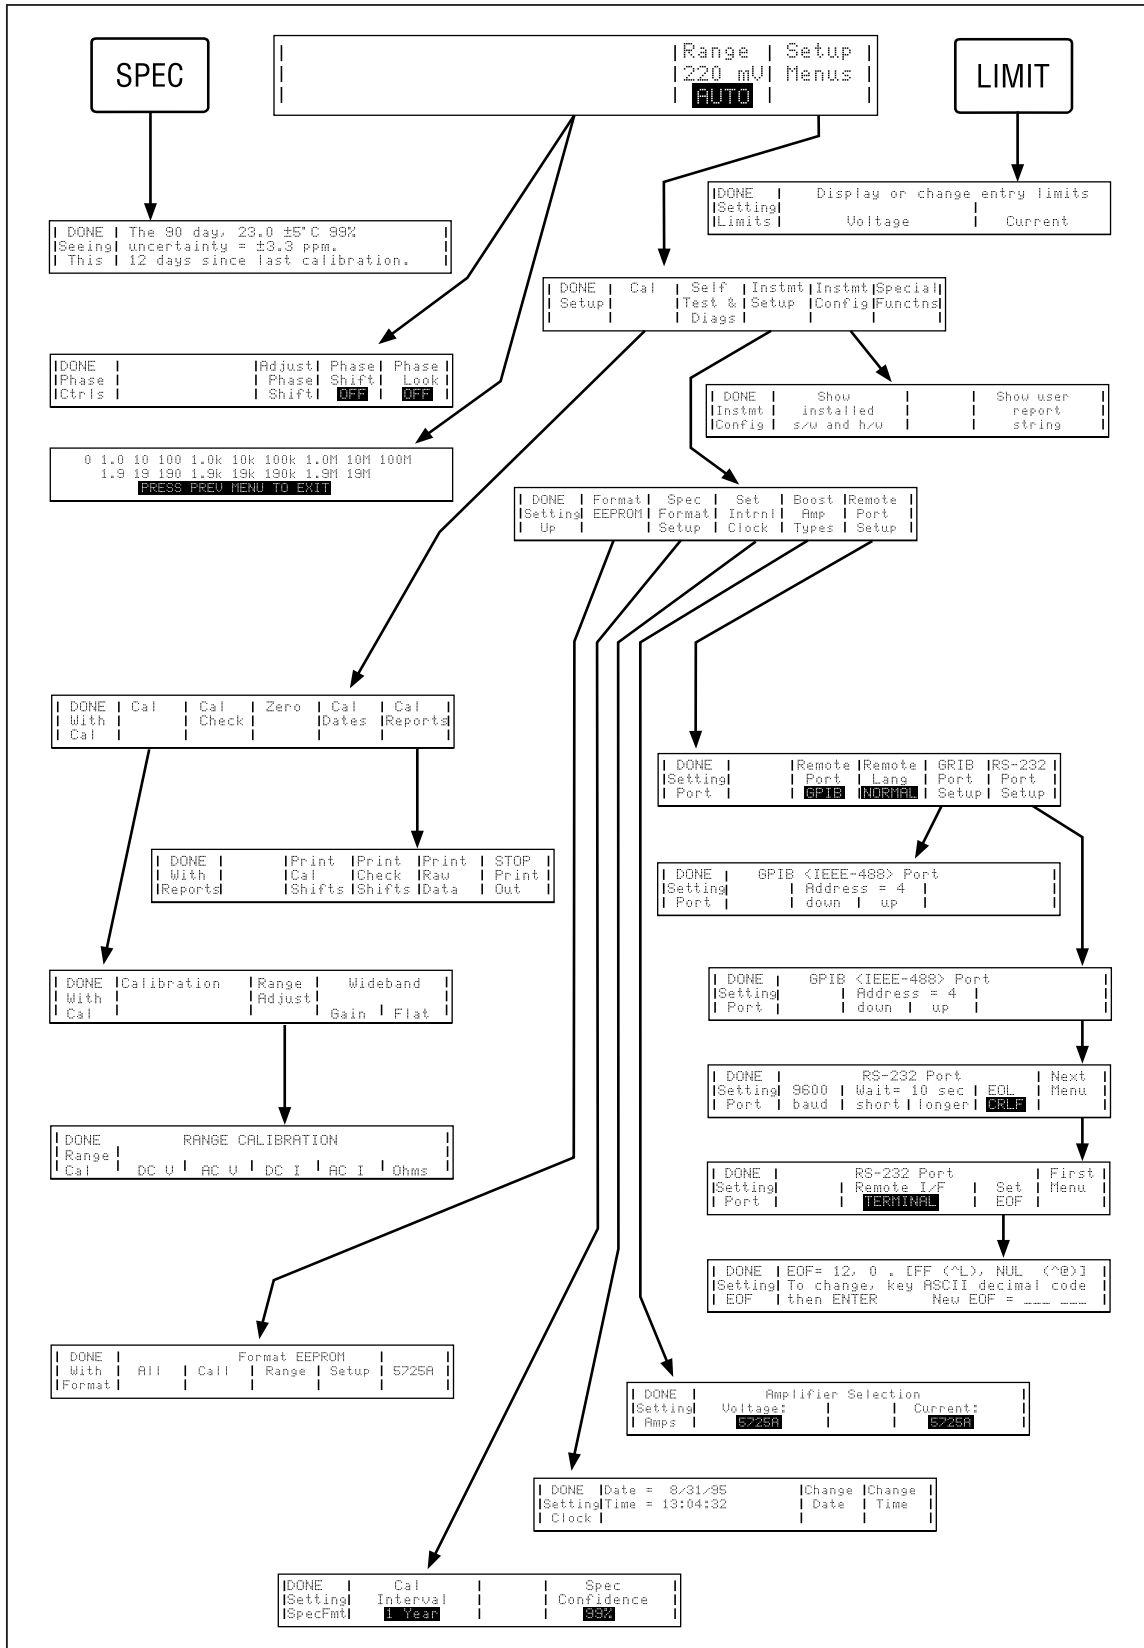

Figure 3-3. Softkey Menu Tree
| <p>② Control Display</p> | <p>An alphanumeric vacuum-fluorescent display that shows data entries, UUT error adjustments, menus, and other prompts and messages. Each menu contains a set of softkey labels that identify the functions of the softkeys directly below them. The changing menus provide access to many different functions through the five softkeys plus the  key. (See Figure 3-3, Softkey Menu Tree.)</p> |
| <p>9</p> <p>Softkeys</p> | <p>The functions of the five unlabeled softkeys are identified by labels on the Control Display directly above each key. The functions change during operation so that many different functions are accessible through these keys. A group of softkey labels is called a menu. A group of interconnected menus is called a menu tree. Figure 3-3 shows the menu tree for the calibrator.</p> |
The functions of the six softkeys described under “Front Panel Features”, are represented by menus containing labels displayed directly above each key. These functions change whenever you access a new menu. Figure 3-3 shows the hierarchy of all the menus available for the calibrator.